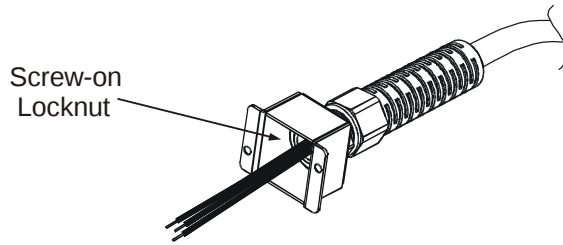

Figure 3-2: Stripped Wires installed in Strain Relief
3. Slide the helix-shaped body onto the AC cable. Insert the stripped wires through the strain relief base until the outer cable jacket is flush with the edge of the base. Tighten (16-18 lb-inch/1.81 – 2.03Nm) the body to the base while holding the cable in place. Now the cable is securely fastened inside the strain relief. Refer to Figure 3-2.